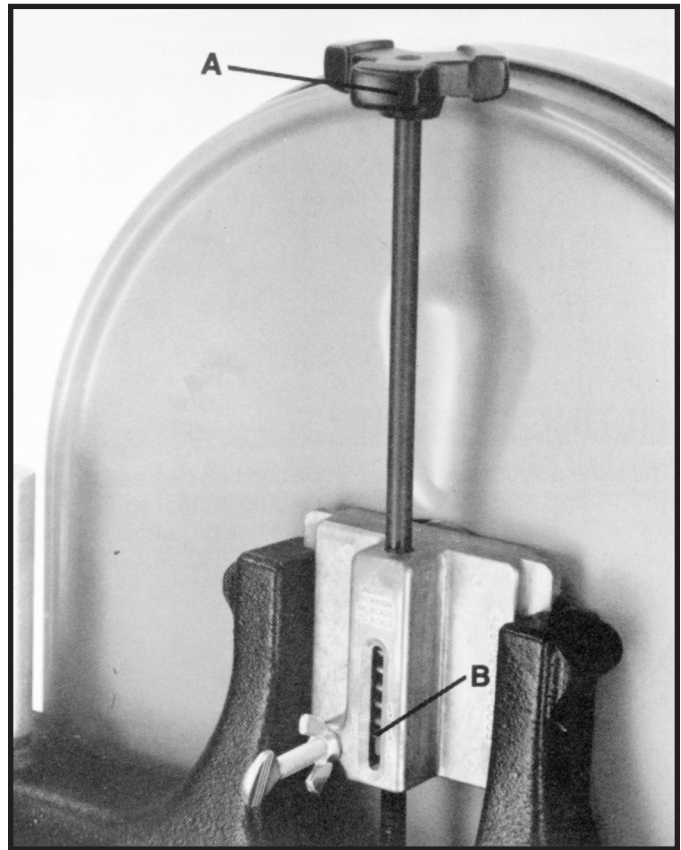

Fig. 21
On the back of the upper wheel slide bracket, there is a series of graduations. These indicate the proper tension for various widths of blades. With the blade on the wheels, turn the knob (A) Fig. 21, to raise or lower the wheel, until the red fiber washer (B) is in line with the proper graduation for the size of blade being used.